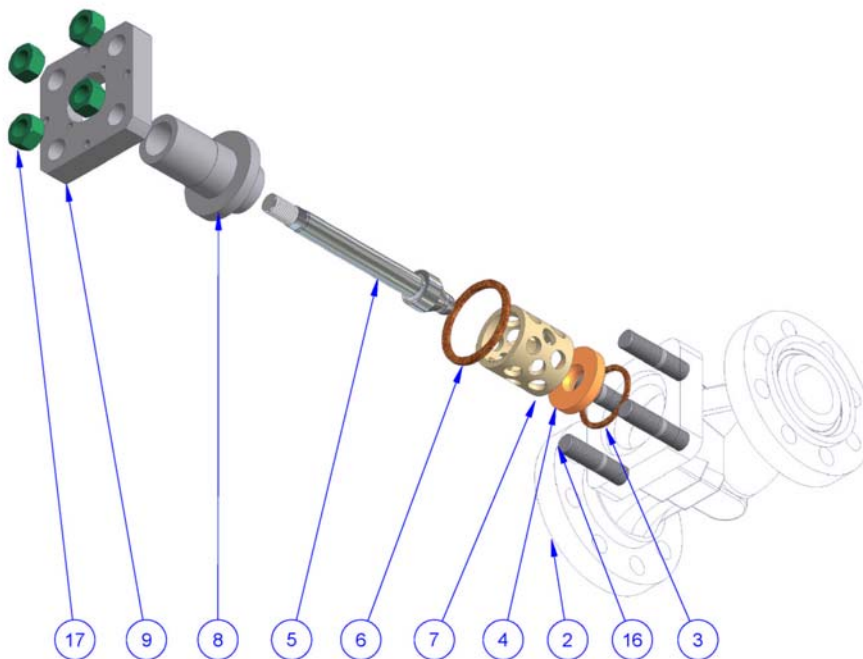

Figure 3: Body Assembly
- 9.13 Insert the upper guide retainer (10) or the retainer with liner. See figure 3